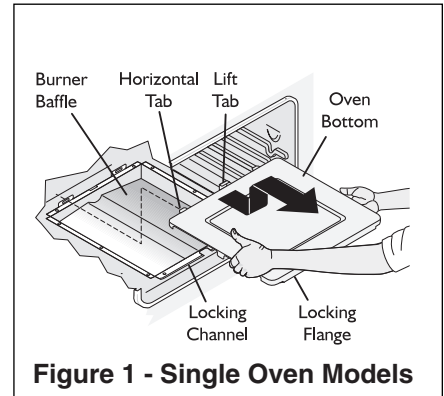

Figure 1 - Single Oven Models
2. Press wire holder to one side to release the glass shield (some models, Figure 1).
4. Replace glass shield in socket and snap wire holder into place (some models, Figure 1).